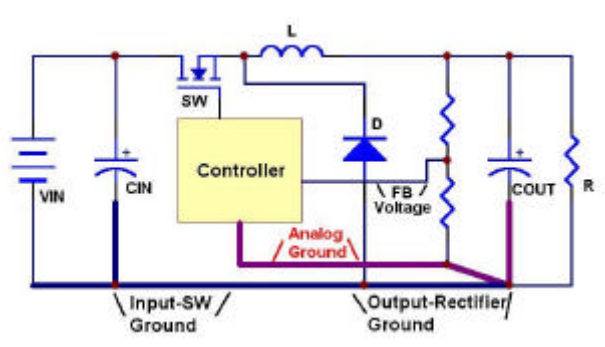

Figure 6. The Grounding Arrangement of PWM Buck Topology
3. control stage ground, which is shown in figure 6 below.[1]